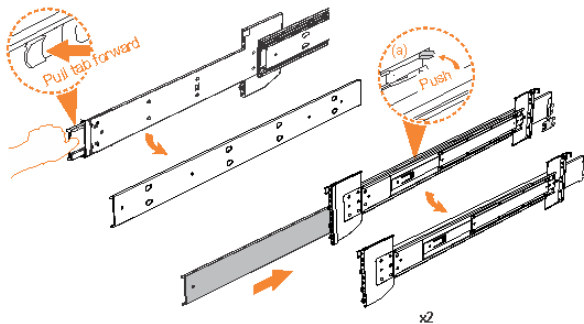

Figure 39. Detaching the inner rail section
3. Remove the inner member of the rail. Push the tab (a) and slide the middle rail member back, as shown in Figure 39 on page 80.